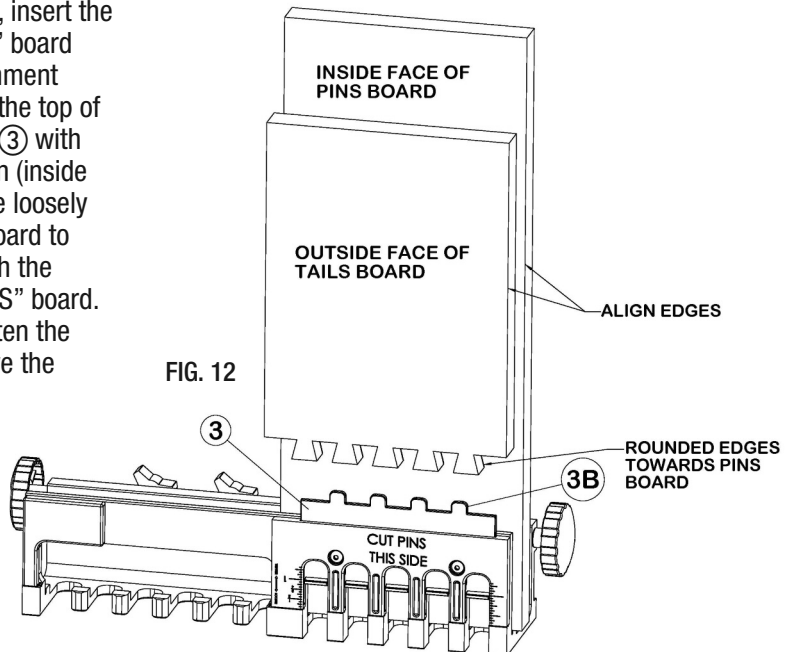

FIG. 12
9. To align the edges, insert the tails of the “TAILS” board into the Edge Alignment Teeth 3B teeth on the top of the Adjuster plate 3 with the rounded side in (inside face), and slide the loosely clamped “PINS” board to align its edges with the edges of the “TAILS” board. Now securely tighten the clamps and remove the “TAILS” board (FIG. 12).